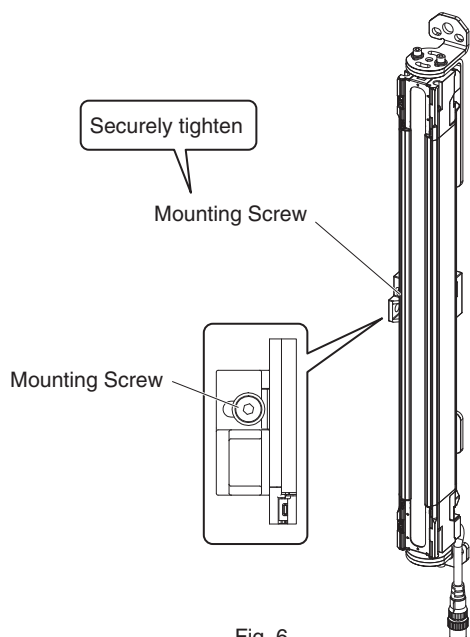

Fig. 6
- 5.** Securely tighten the Mounting Screw to fix the Side-Mount Bracket to the sensor housing. The recommended torque to tighten the Mounting Screw of the Side-Mount Bracket is 3.0 N•m. (Fig. 6)